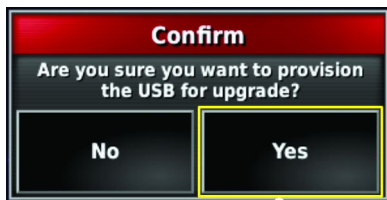

Figure 21
- In the confirm dialog box, press the YES icon (Figure 21).